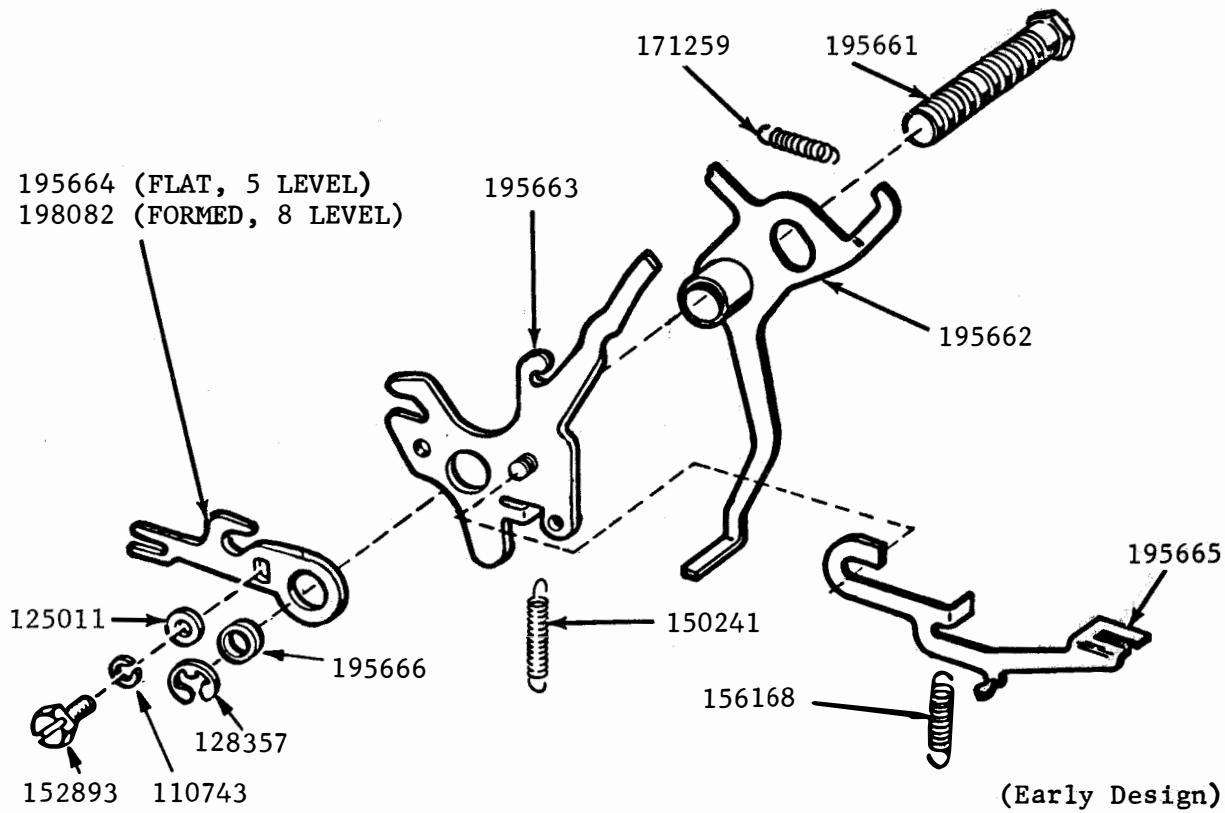

Figure 5
- 2.01 Remove the following parts (Figure 5).